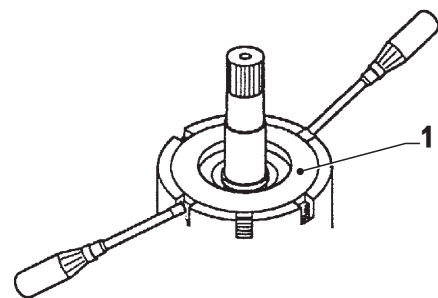

FIG. 8-1c
- Removal of pressure plate: Pressing snap ring against periphery of pressure plate (item 1, Fig. 8-1c) by means of screwdrivers. Extract it together with end disc (item 1, Fig. 8-1c). The clutch discs can now be removed from the coupling housing. Repeat same procedure to remove pressure plate on the opposite side.